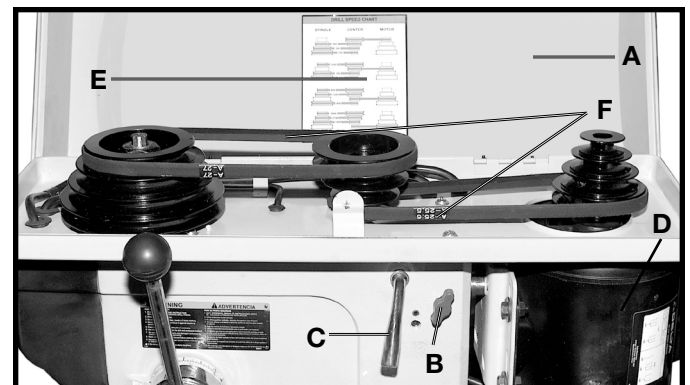

Fig. 28
**NOTE:** A BELT POSITIONING SPEED CHART (E) FIG. 28, IS LOCATED ON THE INSIDE TOP COVER OF THE DRILL PRESS.
1. Lift up the belt and pulley guard (A) Fig. 28.
2. Release belt tension by loosening tension lock knob (B) Fig. 28, and the tension knob located on the other side of the head casting and moving tension lever (C) forward, pivoting the motor (D) toward the front of the drill press.
4. After the belts are positioned on the desired steps of the motor and spindle pulleys, move motor (D) Fig. 28, to the rear until the belt is properly tensioned and tighten tension lock knob (B). The belt should be just tight enough to prevent slipping. Excessive tension will reduce the life of the belt, pulleys and bearings. Correct tension is obtained when the belts (F) can be flexed about 1" out of line midway between the pulleys.